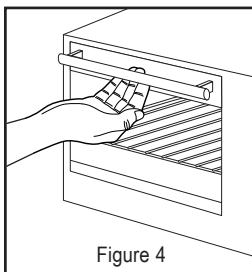

Figure 4
Step 1: Grab the center of the handle underhanded with fingertips (see Figure 4).